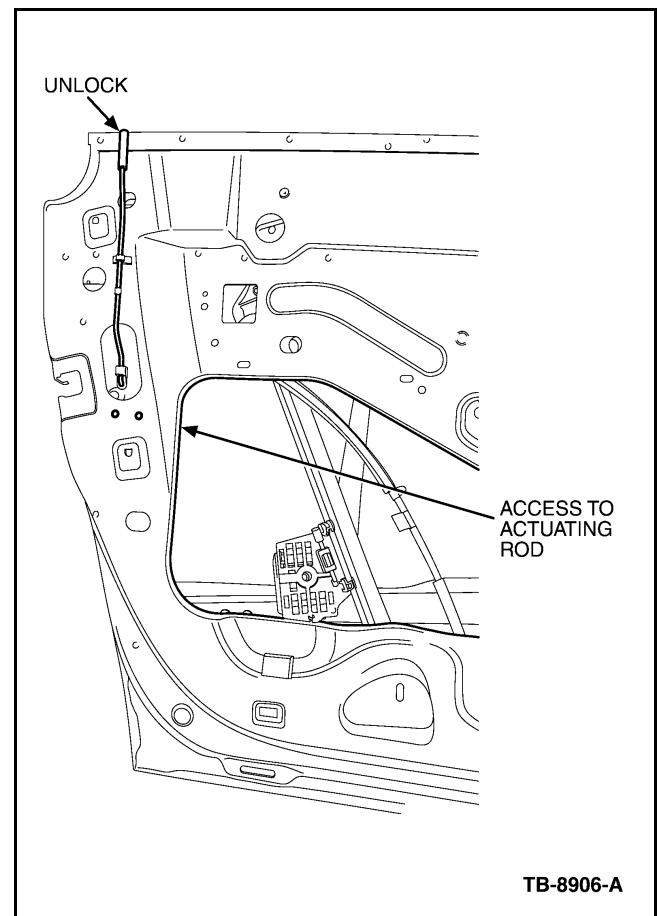

Figure 2 - Article 07-16-7
4. Raise the manual lock rod to the unlock position. (Figure 2)